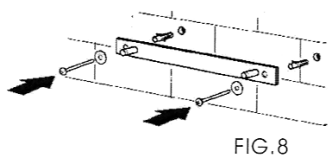

FIG. 8
2. Firmly screw the bracket to the wall. FIG 8